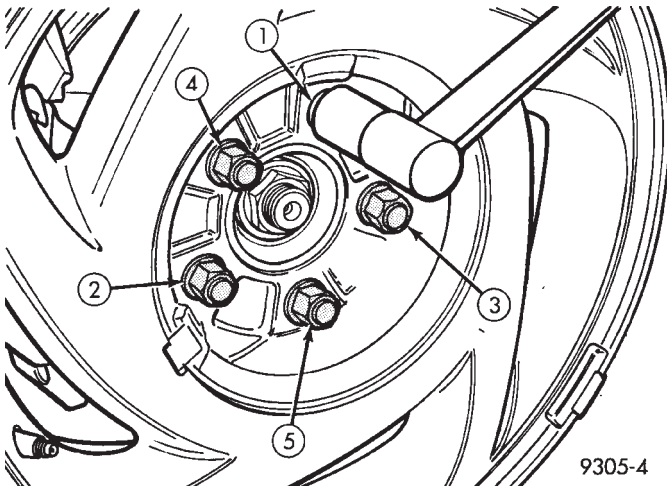

Fig. 5 Tightening Wheel Nuts
(1) Install the wheel and tire assembly.
(2) Tighten the wheel mounting stud nuts in proper sequence (Fig. 5) until all nuts are torqued to half specification.
(3) Then repeat the tightening sequence to the full specified torque of 129 N•m (95 ft. lbs.).